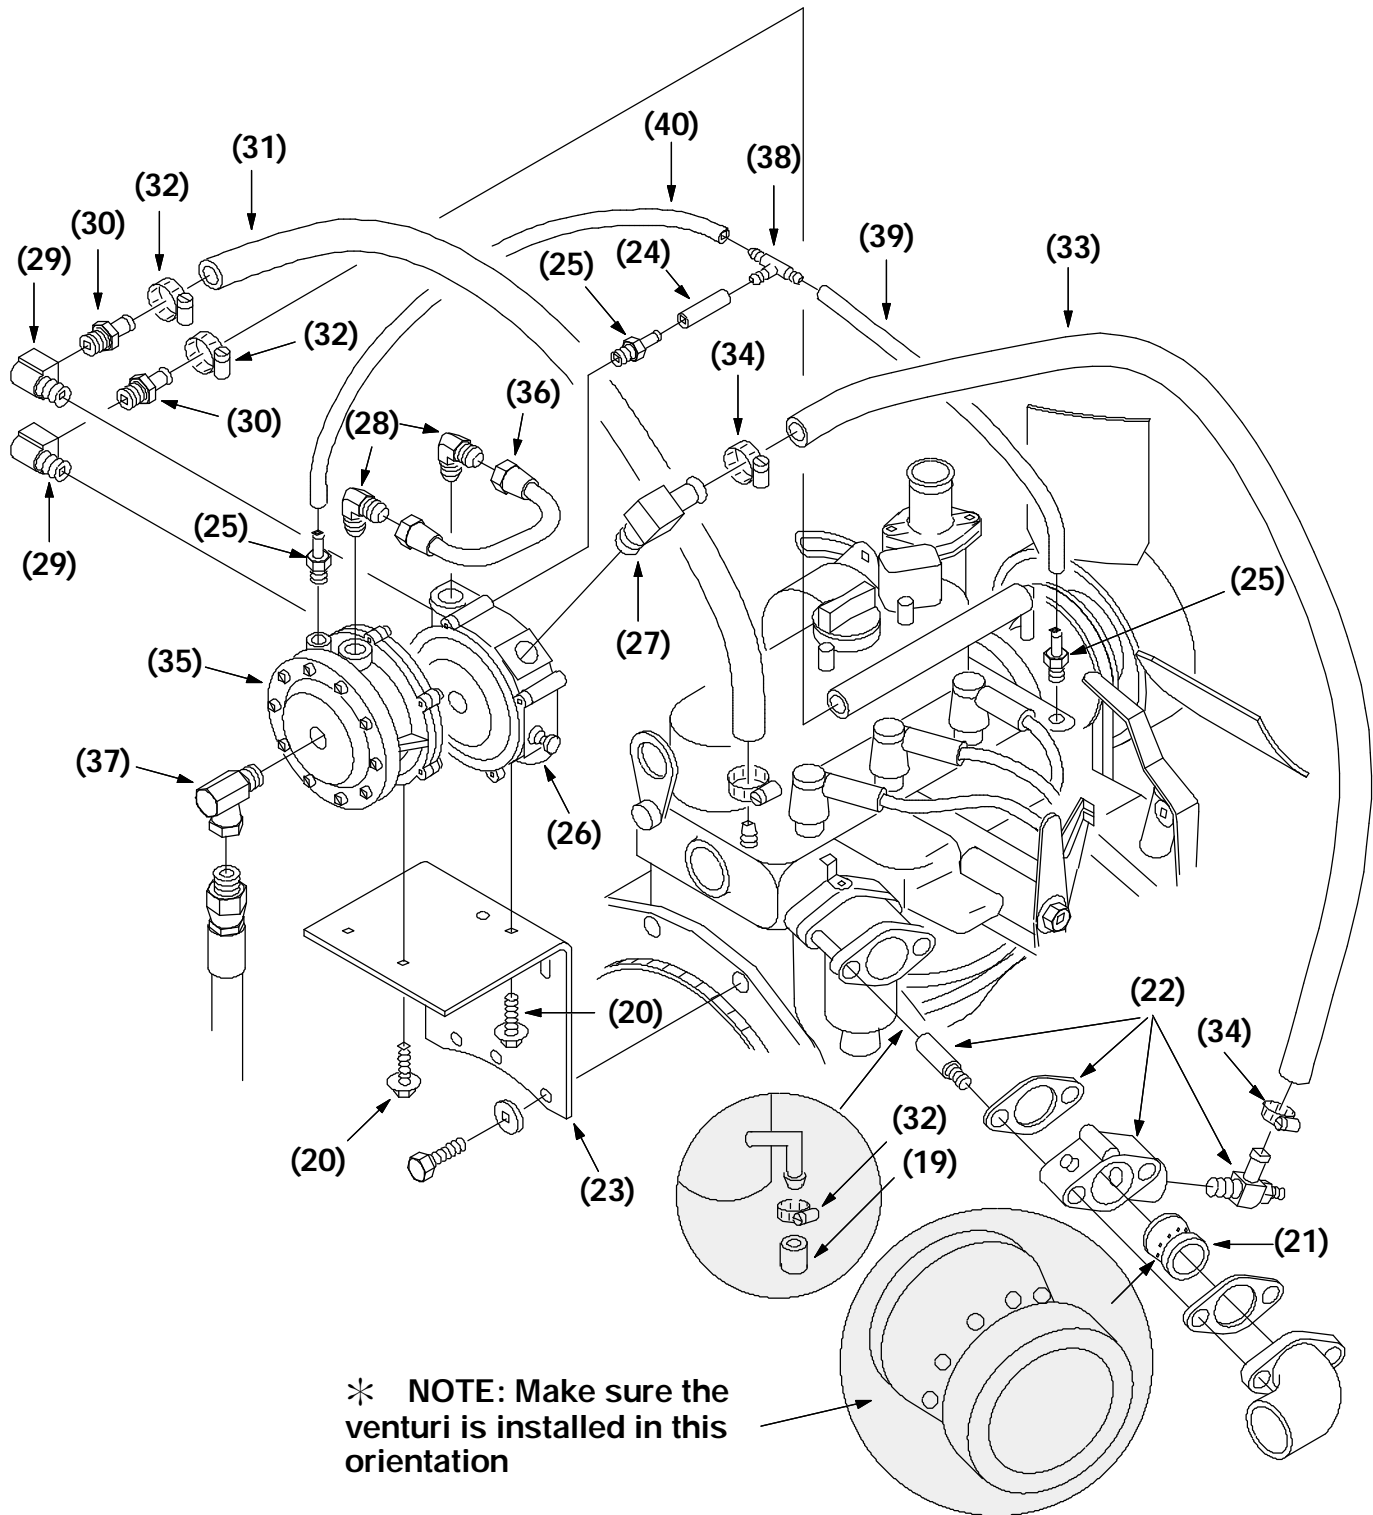

FIG. 4 - LP Fuel System Engine Assembly
12. Install the inlet cap (19) on the fuel line nipple were the gas fuel line was connected. Install one of the worm drive clamps (32) on the inlet cap (19). (Refer to FIG. 4)
13. Install the Kubota carb venturi (21) and carb adaptor (22) on the existing carb. (Refer to FIG. 4)
14. Install the regulator bracket (23) on the back of the engine. (Refer to FIG. 4)
15. Install the regulator (26) and filter fuellock (35) on the regulator bracket (23) using the four hex screws (20). (Refer to FIG. 4)
16. Install the 90° fitting (37) in the end of the filter fuellock (35). Point the fitting down. Connect the LP hose (16) to the fitting (37). (Refer to FIG. 4)
17. Install the two 90° fittings (28) in both the filter fuellock (35) and regulator (26). Point the fittings (28) to the outside of the machine. Install the .375" fuelline (36) on the two fittings (28). (Refer to FIG. 4)
18. Install the brass fitting (27) in the regulator (26). Point it toward the back of the machine. Install the low pressure fuel line (33) on the brass fitting (27) and fitting on the carb venturi (21). Use two worm drive clamps (34). (Refer to FIG. 4)
19. Install the three straight brass fittings (25) in the ports on the fuellock (35), regulator (26), and engine block. Install the short vacuum hose (24) on the plastic tee fitting (38). Install the two vacuum hoses (40 and 39) on the tee fitting (38). Install the vacuum hose assembly on the three straight brass fittings (25). (Refer to FIG. 4)
20. Install the two 90° elbow fittings (29) in the regulator (26). Point the fittings toward the back of the machine. Install the two straight brass fittings (30) in the elbow fittings (29). Install the rubber hose (31) from the top brass fitting (30) to the engine block. Connect the other fitting (30) to the existing rubber hose on the engine. Use the worm drive clamps (32). (Refer to FIG. 4)